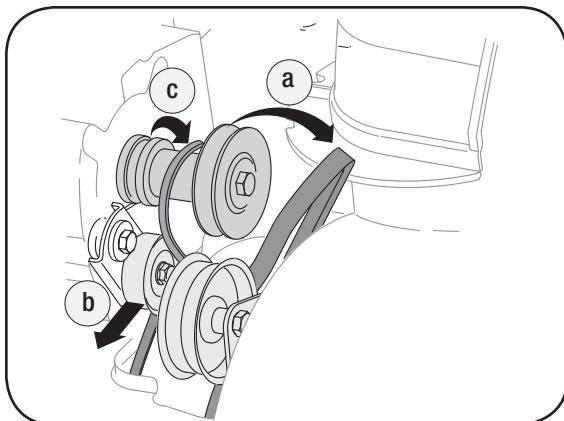

Figure 6-9
b. Use a wrench to pivot the idler pulley toward the right. See Figure 6-9.